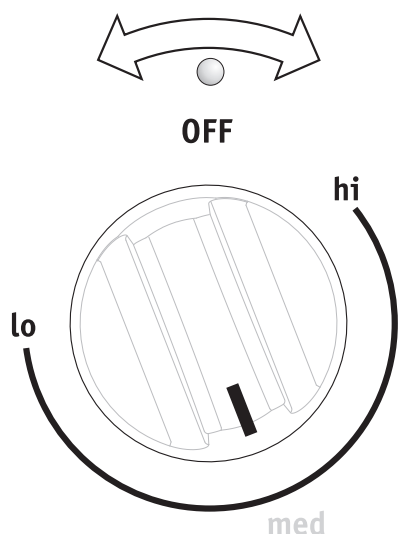

Fig. 1 (with approximate setting for medium shown)
1. Push in the keep warm control knob in either direction (See Fig 1). The temperatures are approximate, and are designated by **hi** and **lo**. However, the control can be set at any position between **hi** and **lo** for different levels of warming.